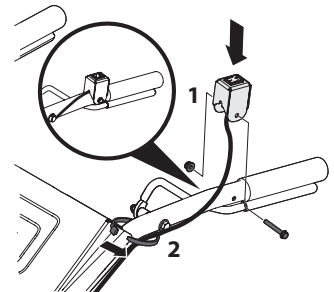

Figure 11
5. Mount the emergency stop control ON/OFF switch onto the left handlebar with the #10-32 : 1.50 hex bolt and 10-32 flange lock nut. See 1 in Figure 11.
6. Secure the wire onto the left handlebar with a cable tie slightly above the handle panel. The wire must be routed along the outer side of the handlebar as shown, making sure that the wire does not interfere with movement of the drive control lever. See 2 in Figure 11.